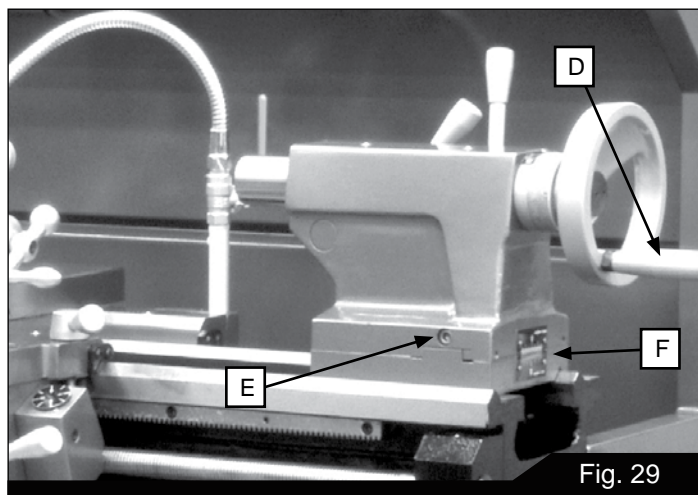

Fig. 29
The tailstock can be offset a distance of 16mm. See Figure 29.
3. Align tailstock using the off-set screws at front and back (see E, Figure 29) until tailstock is aligned.